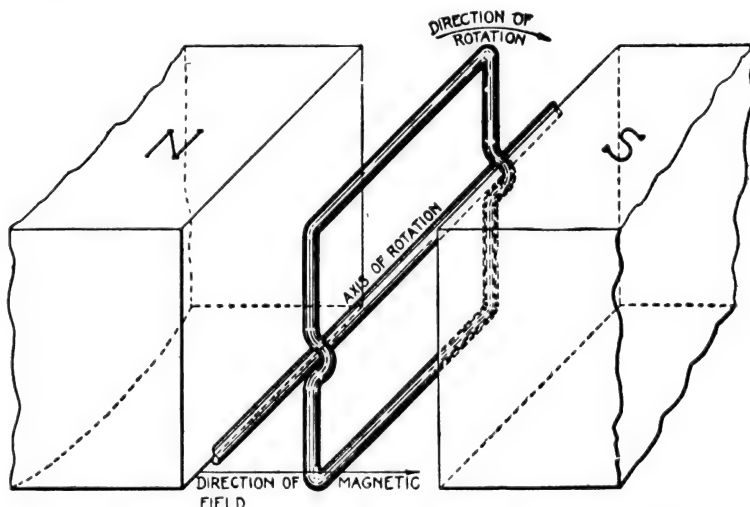
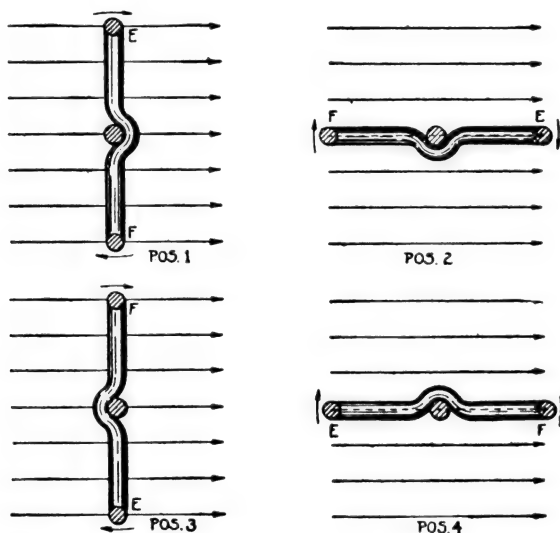
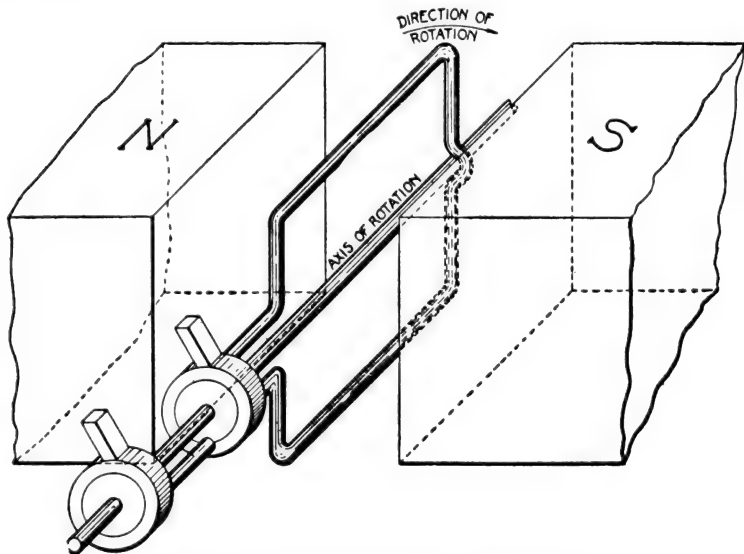

Fig. 7. Closed Loop of Wire Revolving in a Uniform Magnetic Field
Fig. 8. Four Different Positions of a Loop as It Revolves in a Magnetic Field
Fig. 11. Simple Alternating-Current Generator
*Action of Loop.* The arrangement just described may be greatly improved upon by revolving a loop of wire in a magnetic field, as shown in Fig. 7. Four positions of the loop are shown in cross-section in Fig. 8, and the e.m.f. induced in the loop for these different
tion of the conductors or loop. These values can be plotted as a curve, Fig. 10, in which the maximum voltage produced (abbreviated  $E_{\max}$ ) in Position 2 of the loop, Fig. 8, is multiplied by the sine of the different number of degrees. This curve, Fig. 10, is called a sine curve because the height of the curve above the zero line at different places is obtained by the use of these sine tables. The distances along the zero line, Fig. 10, are divided into degrees from zero to  $360^\circ$ , but only  $90^\circ$ ,  $180^\circ$ ,  $270^\circ$ , and  $360^\circ$  are marked; these correspond to the position of the loop in Fig. 8. The distances along the zero line correspond to the values of the angle  $\theta$ . Such a curve is called a sine curve.
**Function of Slip Rings.** In order to make use of the e.m.f. generated in the loop, Fig. 7, in producing a current in an electrical circuit, it is necessary to provide some means of connecting the loop in series with the circuit in which the current is to be produced. Such an electrical connection may be provided by opening up the loop and connecting the two ends thus formed to two continuous metal rings, mounted on the axis of the loop and insulated from each other. Upon these rings are two metal or carbon brushes, connected to the external circuit, as shown in Fig. 11. Such a device constitutes a simple alternating-current generator.
**Function and Operation of Two-Part Commutator.** As the loop of wire in Fig. 11 is made to revolve, an e.m.f. will be induced in